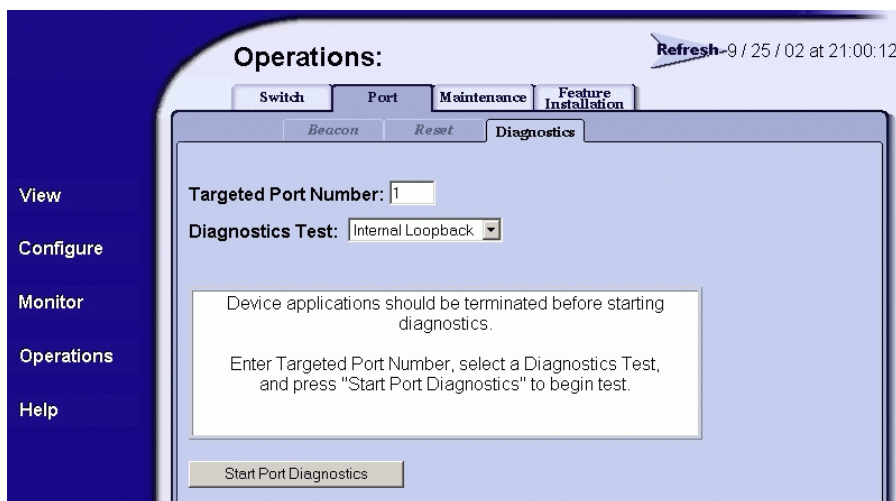

Figure 4-17 Operations Panel (Port Page with Diagnostics Tab)
3. Click the *Port* and *Diagnostics* tabs. The *Port* page displays with the *Diagnostics* tab selected (Figure 4-17).
5. Click the *Port* and *Diagnostics* tabs. The *Port* page displays with the *Diagnostics* tab selected (Figure 4-17).